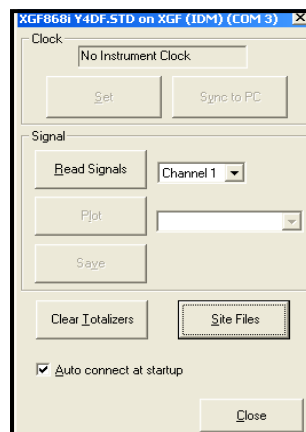

Figure 27: Properties Window
3. The *Properties* window appears similar to *Figure 27* below. To clear the XGF868i totalizers, click on the [Clear Totalizers] button. The XGF868i totalizers are reset to 0.